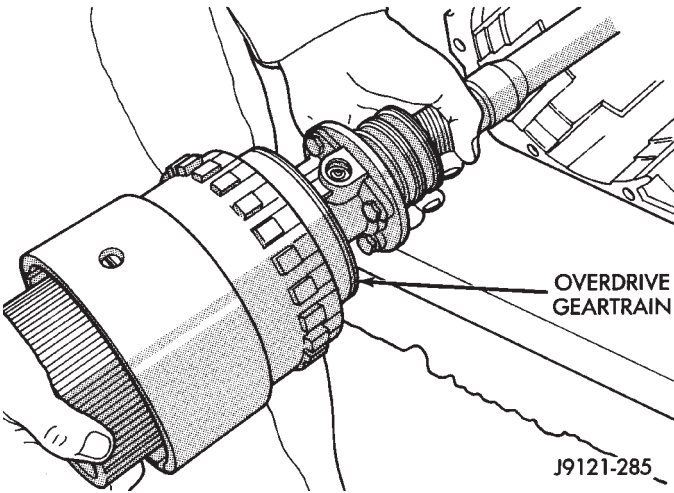

Fig. 11 Removing Overdrive Geartrain
(11) Remove geartrain assembly from housing (Fig. 11). Set geartrain aside.